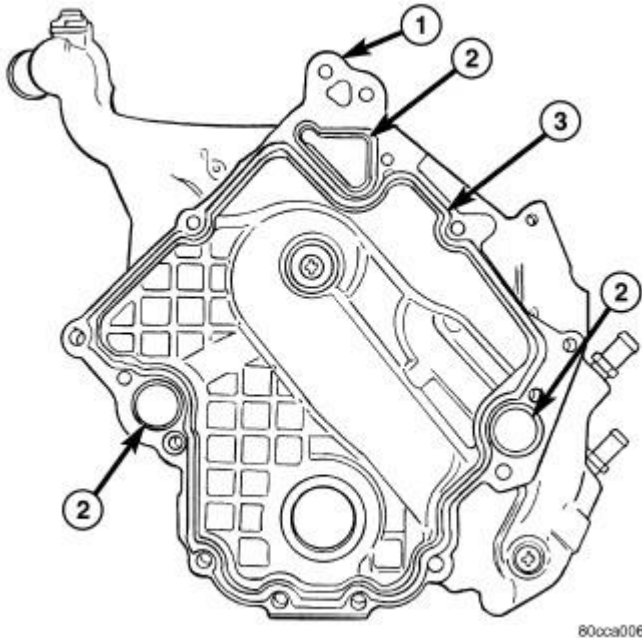

Fig. 175: Timing Chain Cover, Water Passage O-Ring & Engine RTV Sealer
3. Apply Mopar® Grey Engine RTV sealer (3) to the front cover following the path below, using a 3 to 4 mm thick bead. Refer to **Fig. 175**.